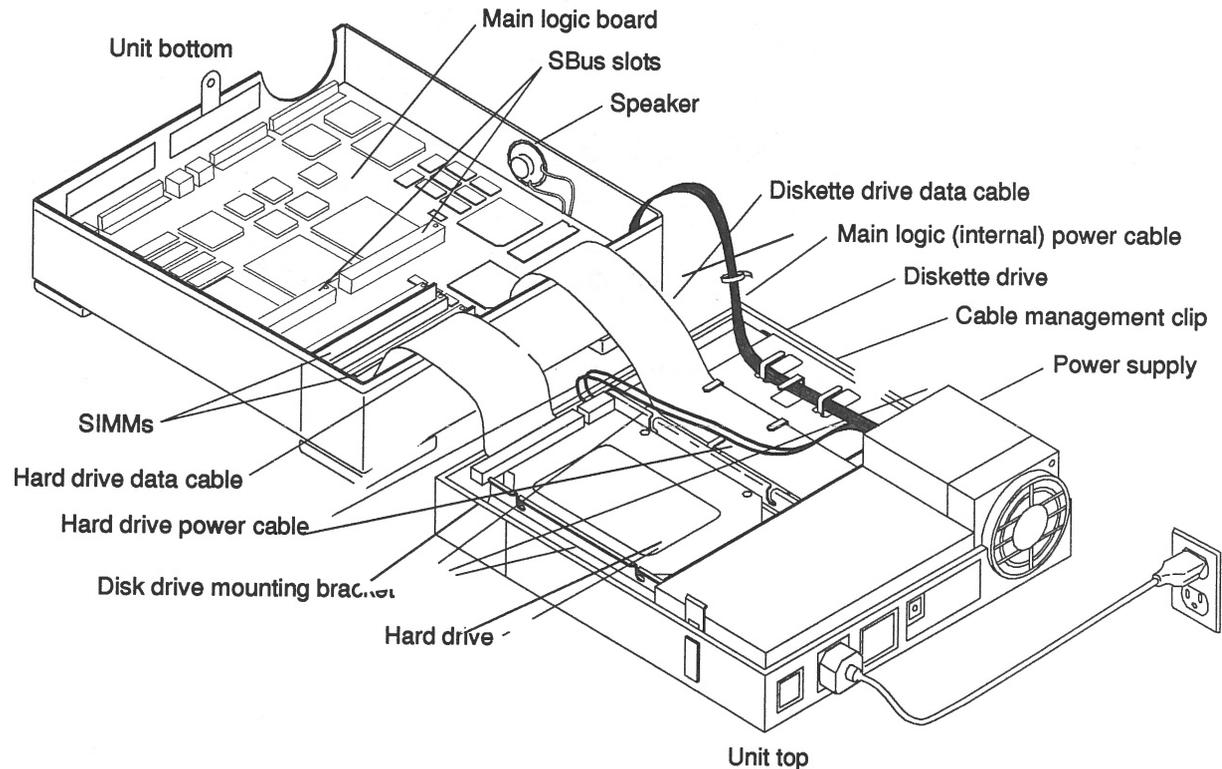

Figure 6-2 System Unit and Subassemblies
Note - The unit top contains the power supply, the diskette drive, and the hard disk drive (see Figure 6-2). It is the heavier of the two sections.
Figure 6-2 shows the various subassemblies of the system unit. The main logic board occupies the unit bottom. The SBus cards plug into the main logic board. Four slots on the main logic board accept the Single Inline Memory Modules (SIMMs).
2. **Attach the end with the adhesive copper strip to the metal casing of the power supply in the system unit. Refer to Figure 6-2.**